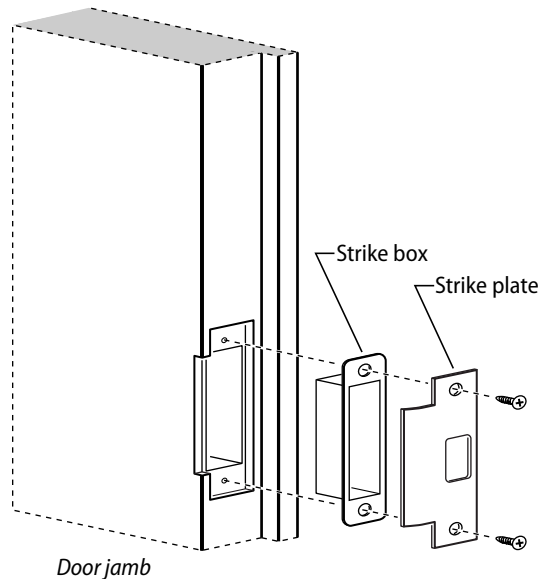

Figure 6 Installing the strike box and strike plate
- 1 Align with the center of the latchbolt, then mortise the door jamb to fit the strike box and strike plate. See Figure 6.